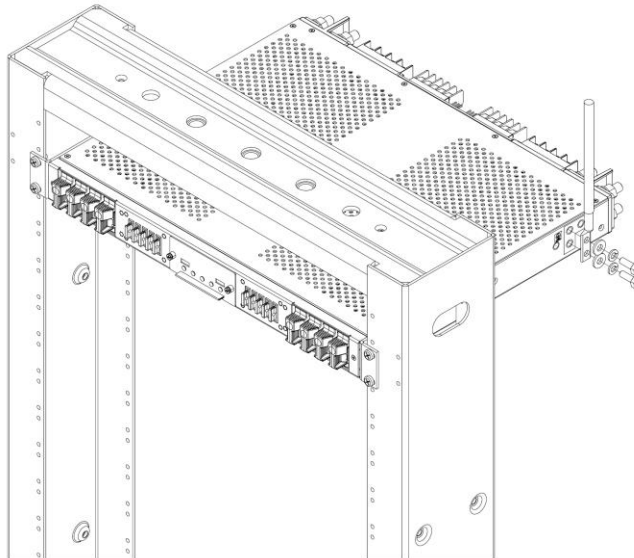

Fig. 2-6: Grounding Lug Connection
11. If required, lightly coat antioxidant on lug and grounding surface on the side or bottom of the panel. Connect the lug using $\frac{1}{4}$ -20 bolts, split washers and flat washers provided, as shown in Fig. 2-6.
17. If required, lightly coat antioxidant on lugs and input BATT and RTN terminals and then connect lugs to input terminals, as shown in Fig. 2-6.